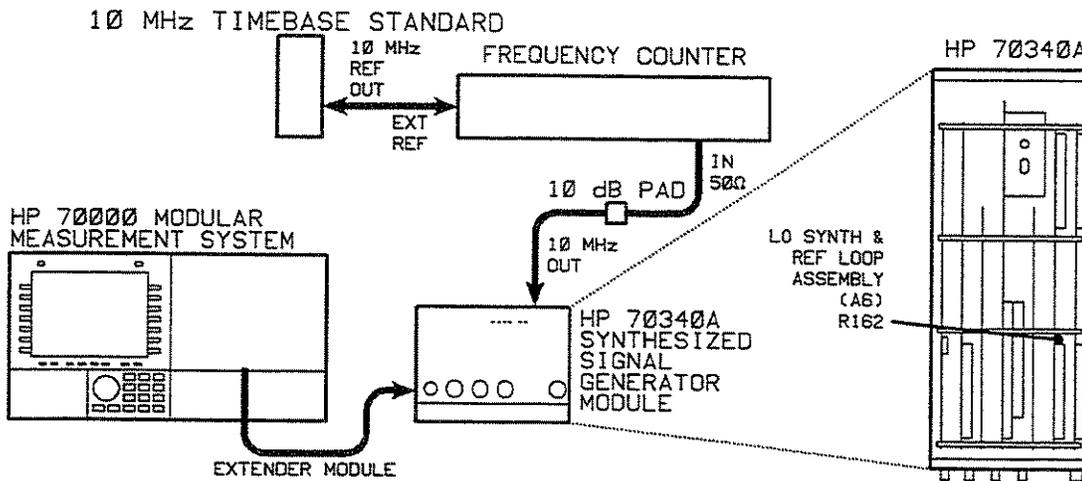

Figure 2-2. Low Stability Timebase Equipment Setup
1. Connect the equipment as shown in Figure 2-2.